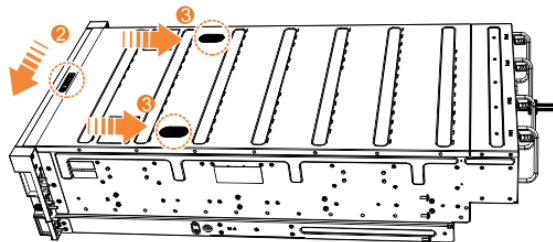

Figure 130. Replacing the top cover
7. Push the cover release lever to the side (2) as shown in Figure 130 on page 177.
8. Slide the cover towards the back of the enclosure (3) back until it stops, as shown in Figure 130 on page 177.